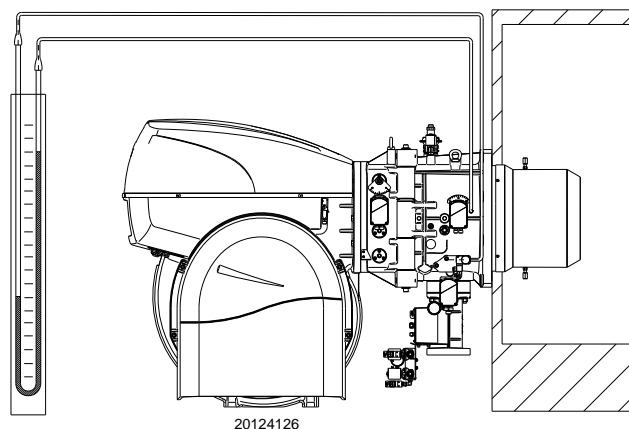

Fig. 39
- Fit a U-type pressure gauge or a differential pressure gauge (Fig. 39), with socket (+) on the gas pressure of the pipe coupling and (-) in the combustion chamber.
The arrival of gas at the sleeve is indicated by the U-type manometer (Fig. 39).